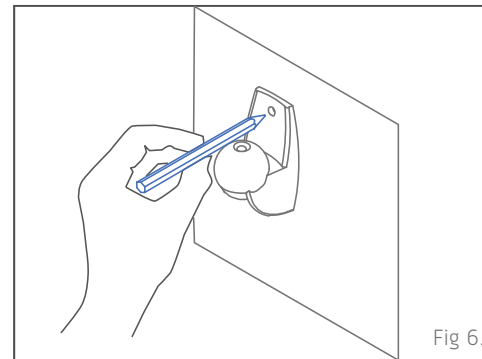

Fig 6.
- Using ball joint piece as a template, mark out two holes on wall. Remove ball joint piece and drill into mounting surface using a drill bit appropriate for the selected wall anchors. (Fig 6.)